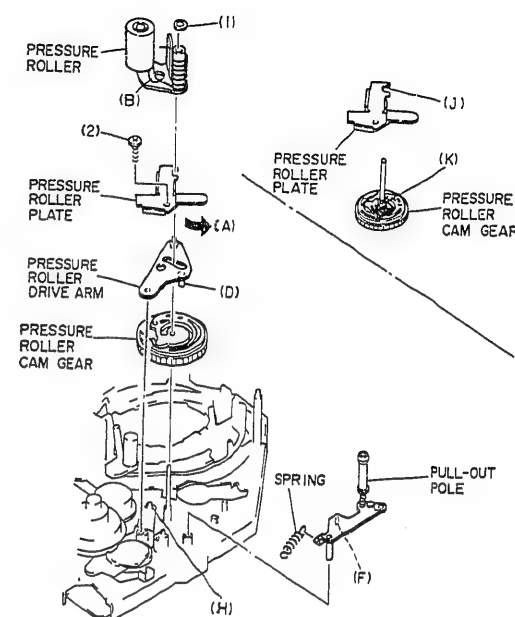

Fig. 2-8
2-7. Pressure roller (fig. 2-8)
2-8. Pressure roller plate, pull-out pole, pressure roller drive arm, pressure roller cam gear (Figs. 2-8, 2-9)
- 1) Remove screw (2) holding the pressure roller plate. (See Fig. 2-8)
- 2) Move the pressure roller plate in the direction of arrow (C) and remove the pressure roller plate. (See Fig. 2-8)
- 3) Remove the spring. (See Fig. 2-8)
- 4) Pull out the pull-out pole from the chassis. (See Fig. 2-8)
- 5) Remove the pressure roller drive arm from the chassis. (See Fig. 2-8)
- 6) Pull out the pressure roller cam gear from the pressure roller shaft. (See Fig. 2-8)
- Reinstall the pressure roller drive arm so that pin (D) of this arm is inserted into groove (E) in the surface of the pressure roller cam gear. (See Figs. 2-8, 2-9)
- Reinstall the pull-out pole so that pin (F) of this pole is inserted into groove (G) in the surface of the pressure roller cam gear. (See Figs. 2-8, 2-9)
- Reinstall the pressure roller cam gear so that pin (H) of the cassette holder lock arm is inserted into groove (I) in the back of the pressure roller cam gear. (See Figs. 2-8, 2-9)
- Reinstall the pressure roller plate (J) by inserting it into the groove (K). (See Figs. 2-8)